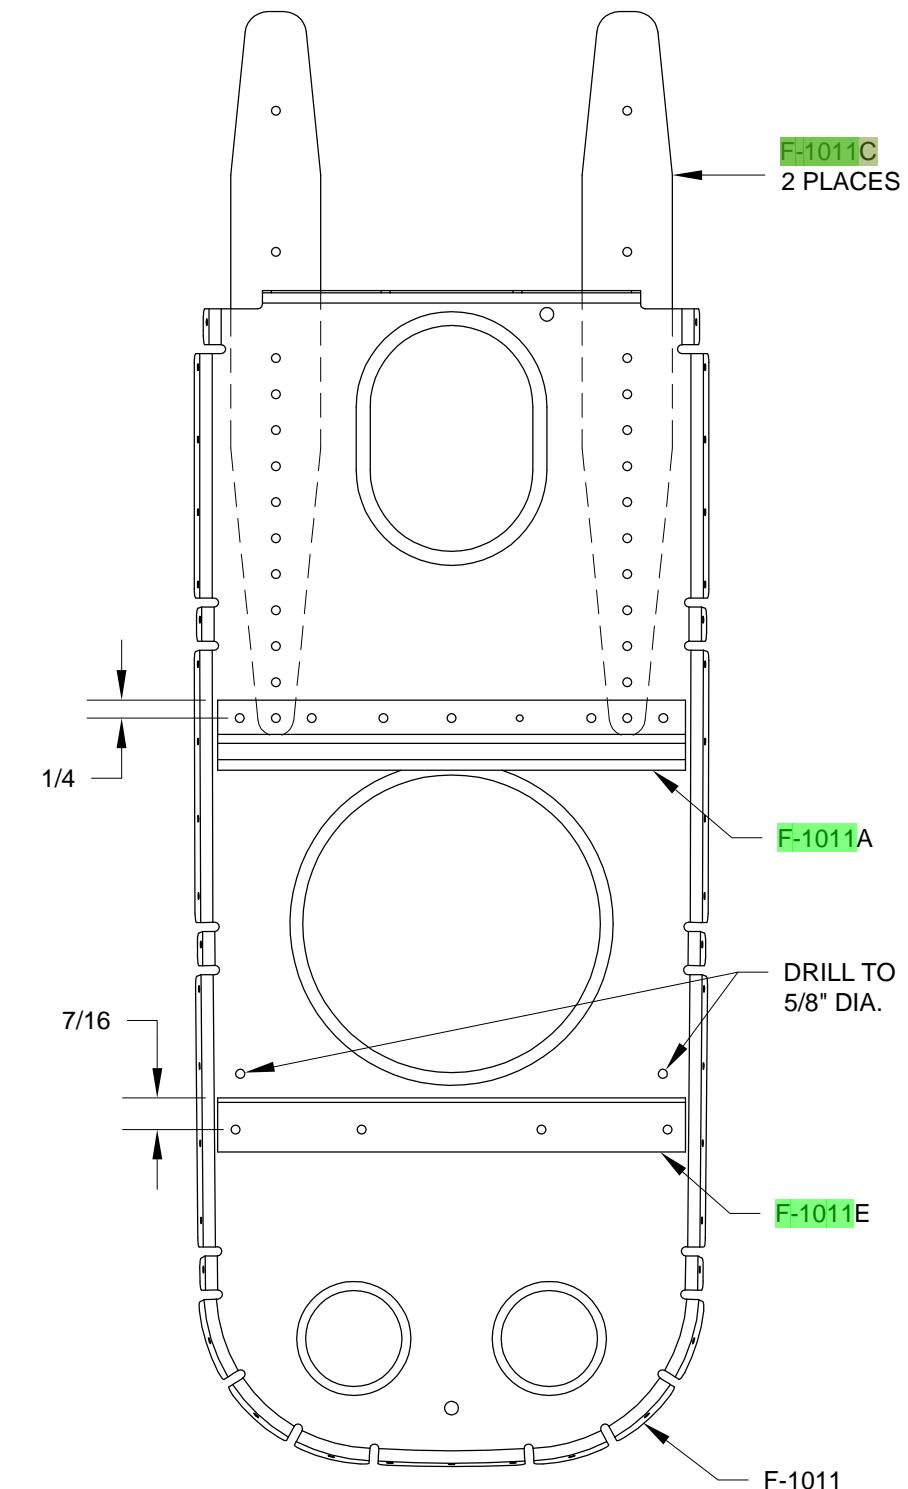

**FIGURE 2:
Step 2: Finish the edges of the two F-1011C Horizontal Stabilizer Attachment Bars, then cleco them to the front of the F-1011 Bulkhead as shown in Figure 2. Except for the bottom hole in each attachment bar (the hole shared with the F-1011A Bulkhead Stiffener), final-drill the holes common to the attachment bar and bulkhead using a #30 drill.
Step 3: Place the F-1011A Bulkhead Stiffener on the back of the F-1011 Bulkhead as shown in Figure 2. Center the stiffener between the sides of the bulkhead with the top of the stiffener flange a quarter inch above the holes in the bulkhead as depicted in Figure 3.